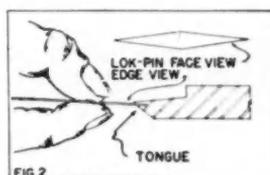

FIG 2
2. Start Lok-Pins just below tip of tongue of second unit (Fig. 2).